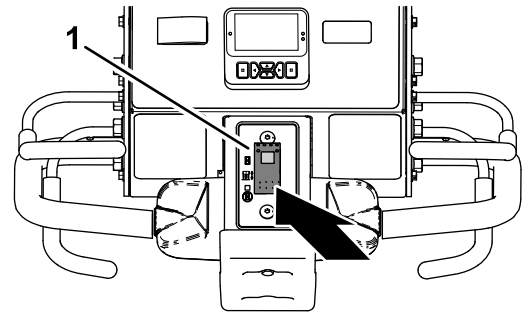

Figure 86
1. Press the bottom of the drop-control switch (Figure 86) to the IMMEDIATE-DROP position.